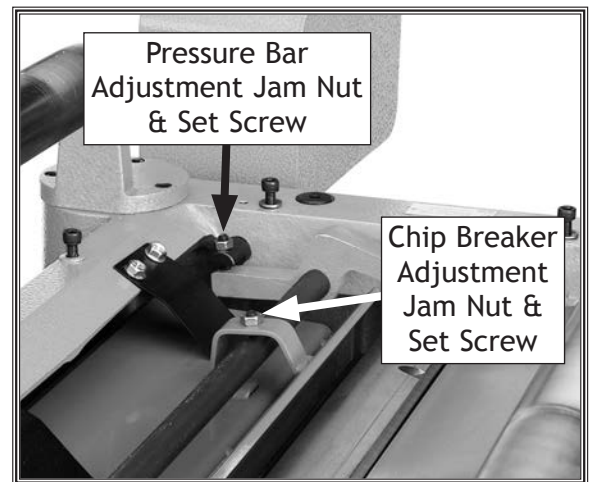

Figure 52. Location of chip breaker and pressure bar height adjustment components.
12. Using same "0" reference on Rotacator dial from **Step 5**, perform similar steps as described previously to adjust height of chip breaker to its recommended specification given at beginning of this subsection. (The adjustment controls are shown in **Figure 52**.)
13. Repeat **Step 12** for pressure bar height adjustment (see **Figure 52**).